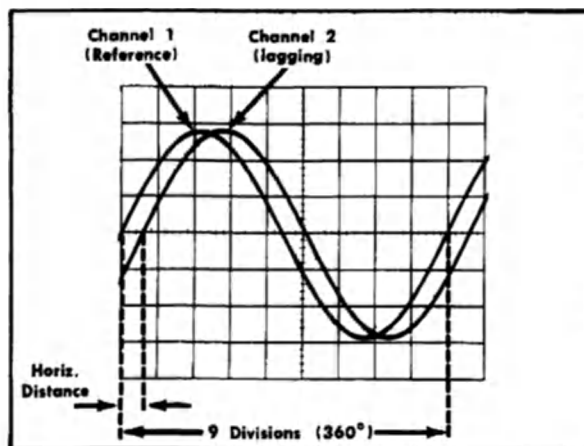
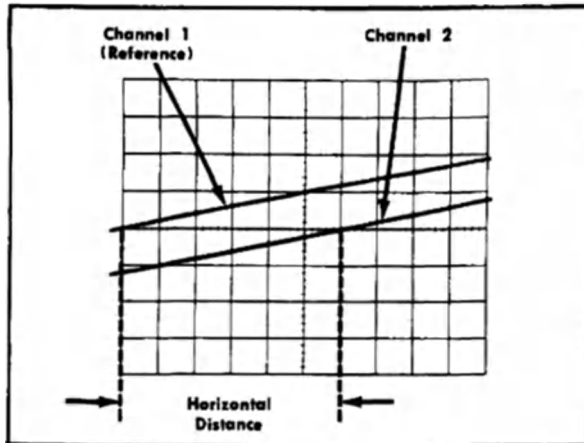

Fig. 2-15. Measuring phase difference.
Fig. 2-16. More accurate phase measurement with increased sweep rate.
5. Turn the VARIABLE TIME/DIV control until one cycle of the reference signal (Channel 1) occupies exactly nine divisions horizontally (see Fig. 2-15). Each division of the graticule represents 40° of the cycle ($360^\circ \div 9 \text{ divisions} = 40^\circ/\text{division}$). The sweep rate can be stated in terms of degrees as $40^\circ/\text{division}$.
Example. Assume a horizontal distance of 0.6 divisions with a sweep rate of $40^\circ/\text{division}$ as shown in Fig. 2-15.
Example. For example, if the sweep rate were increased 10 times with the magnifier, the magnified sweep rate would be $40^\circ \div 10 = 4^\circ/\text{division}$. Fig. 2-16 shows the same signals as used in Fig. 2-15 but with the magnifier on. With a horizontal distance of six divisions, the phase difference is: